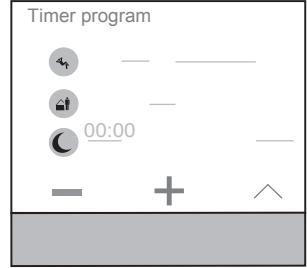

Figure 13: Setting the switching time
The display changes for setting the switching time (figure 13).
- Set the switch-on/switch-off time with / + (figure 13).